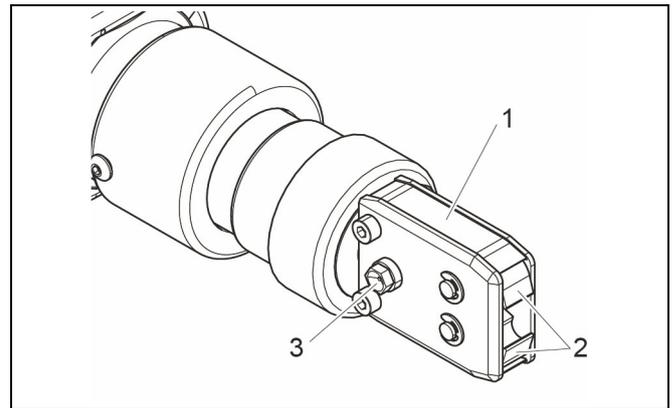

Fig. 23: Lubricating the pincer head
2. Grease pincer head (Fig. 23/1) on grease nipple (Fig. 23/3) using a grease gun with special lubricant RENOLIT LX-EP 2 (RENOLIT Duraplex EP 2).
3. Check pincer jaws (Fig. 23/2) for wear and breaks at the clamping points, exchange if necessary (see tool catalog for part no.).